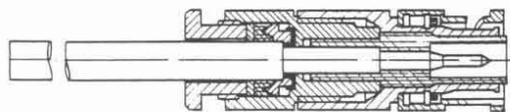

Fig. 10
- 9.6 Introduce the cable end into the plug body while turning it slightly in both directions. The tip of the inner conductor contact must be brought in the position relative to the plug front as shown in Fig. 10. Push the seal and the washer into the plug and screw the nipple to the housing.